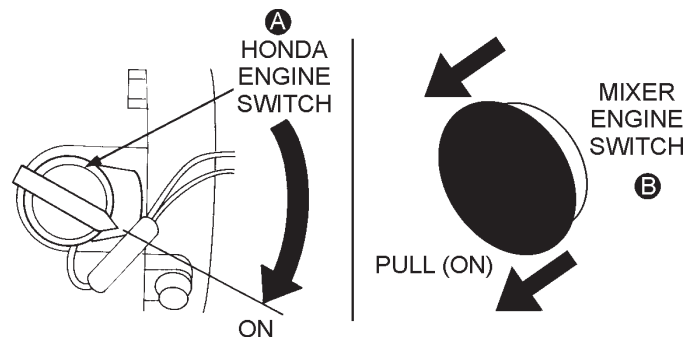

Figure 11. Engine ON/OFF Switches (ON Position)
5. Place both engine ON/OFF switches (Figure 11) in the “ON” position.